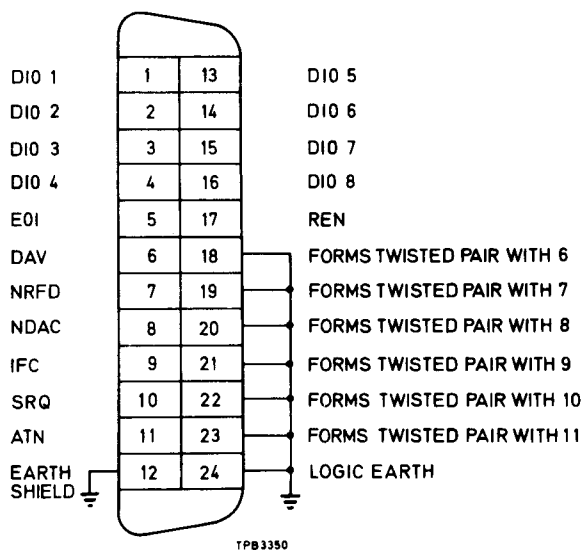

Fig. 8 GPIB connector contact assignment
33. The contact assignment of the GPIB cable connector and the device connector is as shown in Fig. 8 below.